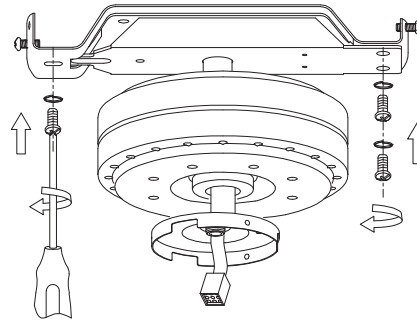

Fig. 6
Step 3. After hanging the motor to the ceiling mounting plate, secure the motor to the ceiling mounting using the screws and washers. See **Fig. 6**.